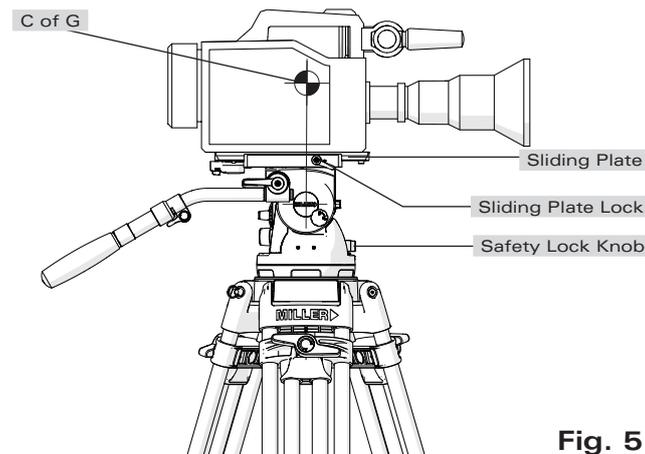

Fig. 5
- 2.6 Release the SLIDING PLATFORM LOCK and slide the SLIDING PLATFORM such that the camera's C of G is directly above the centre axis of the Fluid Head and tighten the SLIDING PLATFORM LOCK (Fig.5). If this can not be achieved then reposition the CAMERA PLATE on the Camera - step 2.4. This will ensure that the system has maximum stability.